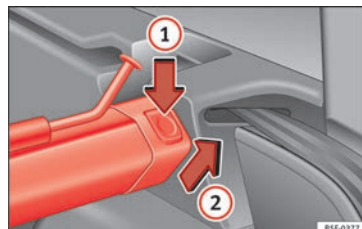

Fig. 168 In the luggage compartment: removing the net partition.
- Press the left or right release catch » Fig. 168 in the direction of the arrow ①.
- Remove the casing from the support in the direction of the arrow » Fig. 168 ②.
- Press the casing into the left and right supports in the opposite direction to the arrow » Fig. 168 ② until it engages.